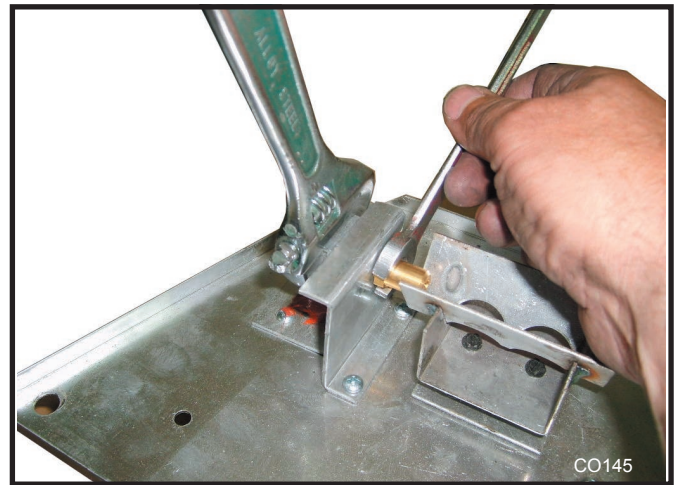

**Fig. 74** Remove three (3) nuts securing ember bed in place.
1. Remove three (3) 3/8" nuts on bottom side of burner pan. (Fig. 74)
2. Thread and tighten 3/8" nuts back onto pem studs on underneath side of control panel, reversing Step 1 shown in Figure 74.